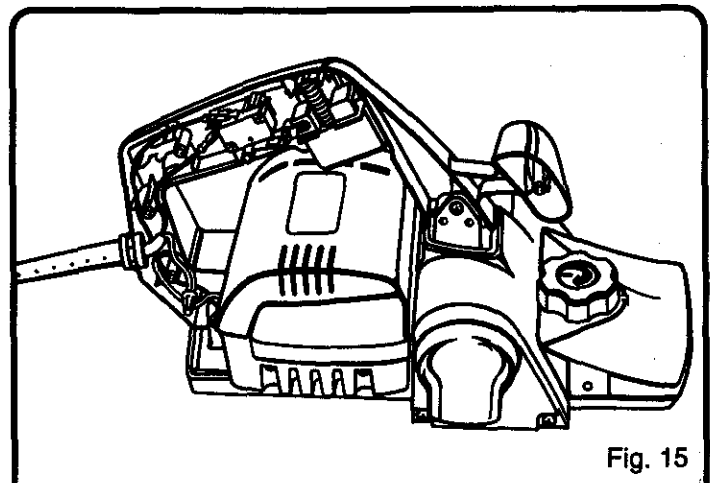

Fig. 15
3. Note the locations of all wiring in the handle and how each connection is made to the cord. Connections and wiring position must be identical when installing new cord. See Figure 15.